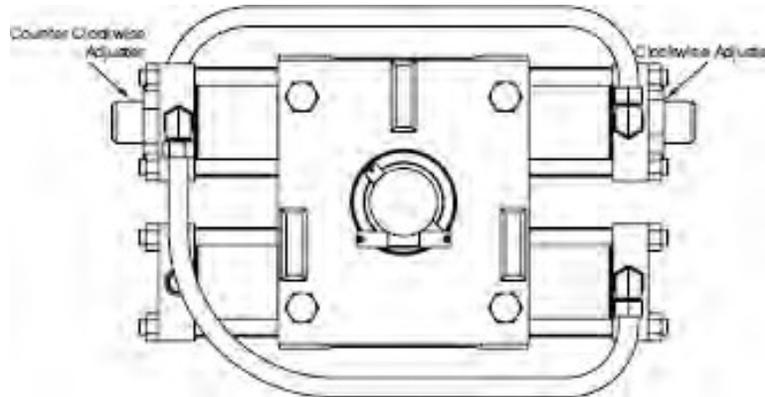

Figure 36A: Stroke Adjusters
1. Position the actuator in the desired final fail-safe position slightly beyond the calibrated stroke adjuster. This can be done when calibrating Position Lo and Position Hi. See Figure 36A for details.
3. Locate the correct stroke adjuster. See Figure 36A for details.